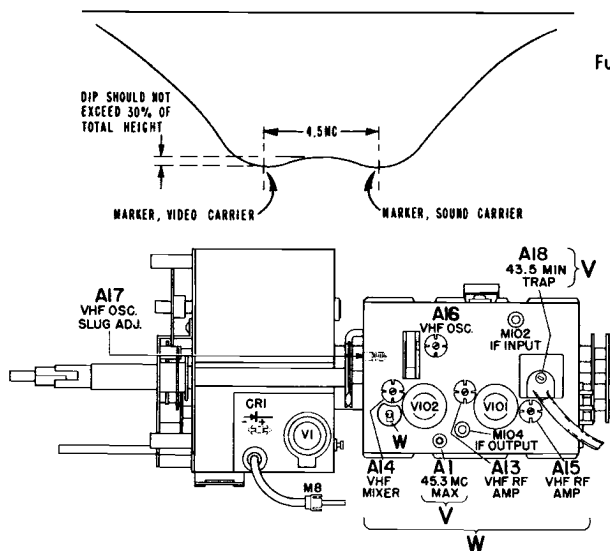

Figure 26. Top of VHF and UHF TV TUNER, Showing Adjustment Locations.
- Connect oscilloscope to test point "W" on VHF tuner (figure 26). Keep scope leads away from chassis.
- Remove CR1 (mixer crystal) from holder. Connect sweep generator high side through 100 ohm resistor to negative clip of mixer crystal socket, see figure 26. If sweep generator does not have a built-in marker generator, loosely couple a marker generator to the high side of sweep generator. To avoid distortion of
- Connect oscilloscope to test point "W" on tuner (figure 26). Keep scope leads away from chassis.